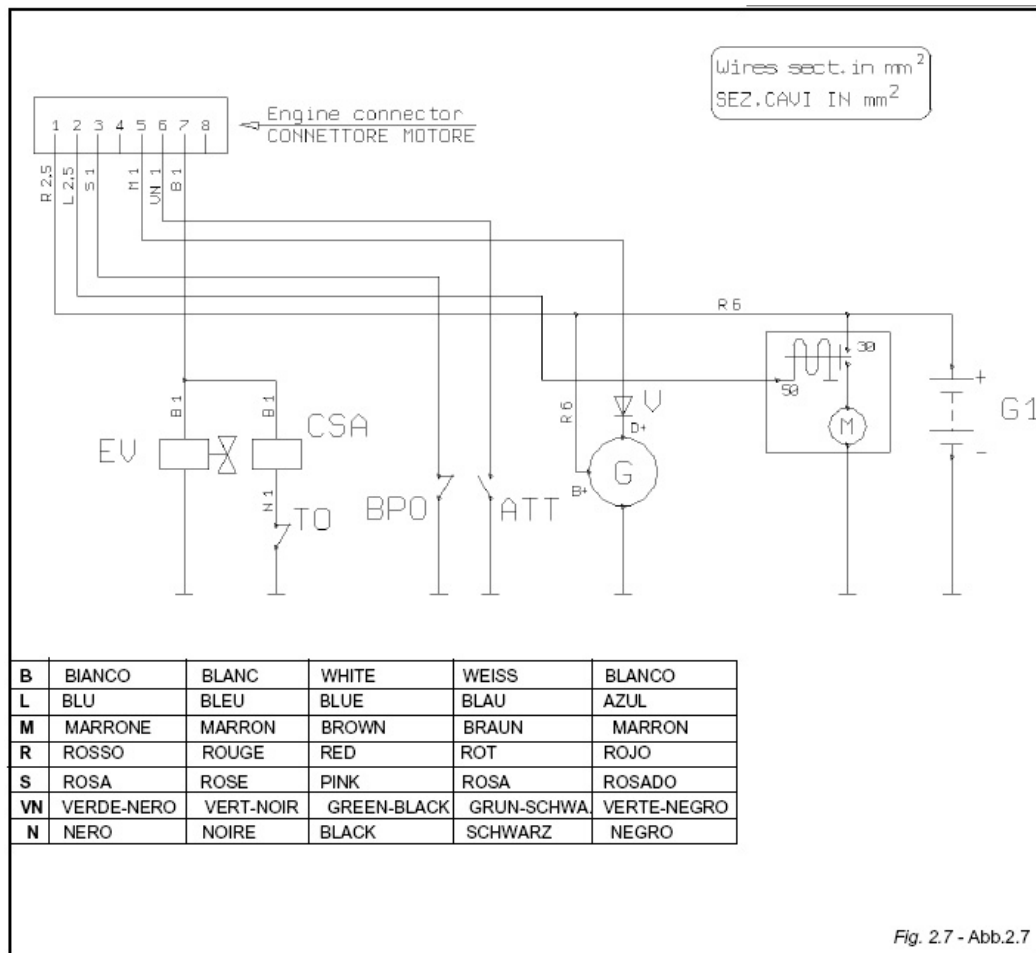

Fig. 2.7 - Abb.2.7
12V (FIG. 2.7)**
(FIG. 2.7)**
2.4 INSTALACION ELECTRICA 12V (FIG. 2.7)